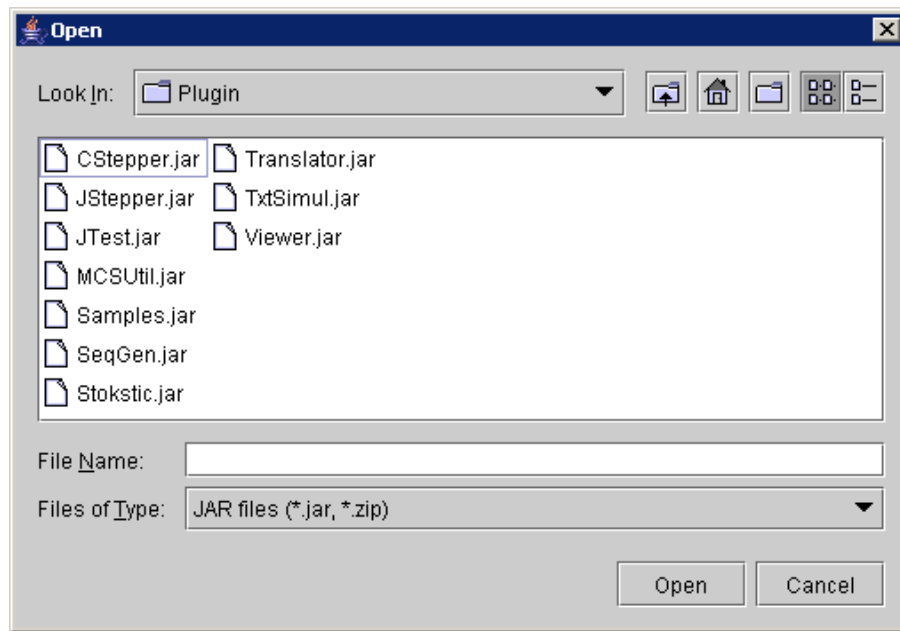

Figure 191 : Add plugins contained in JAR files
- ◆ Click on the **Add** button; the following window then appears (Figure 191):